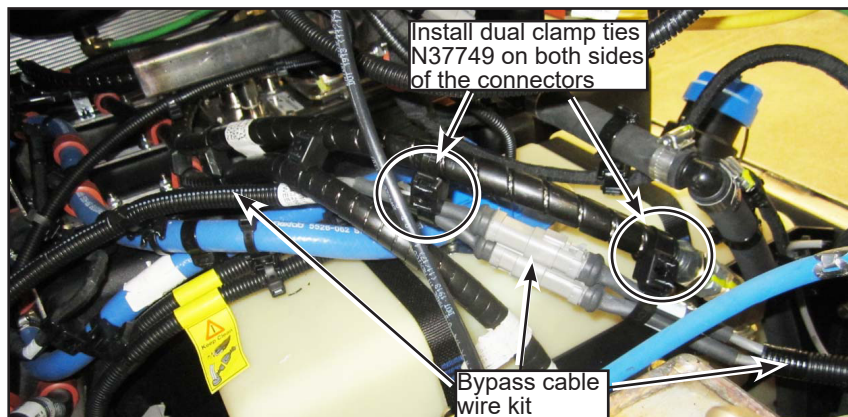

Figure 9 - Install Two Dual Clamp Ties
- 1.9. Install dual clamp ties N37749 on both sides of the bypass cable wire kit maintenance connectors (see Figure 9).